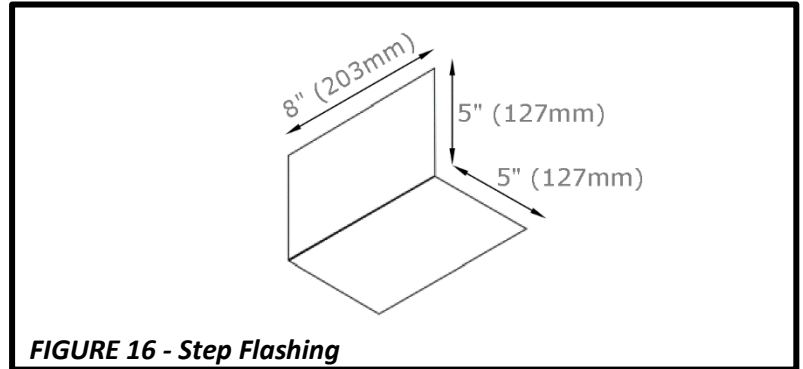

FIGURE 16 - Step Flashing
- FWAVE recommends using **10" x 8" (254mm x 203mm) step flashing** metal. See **Figure 16**. Step flashing must extend at least **4" (102mm)** up the sidewall and at least **4" (102mm)** over underlapping shingles.